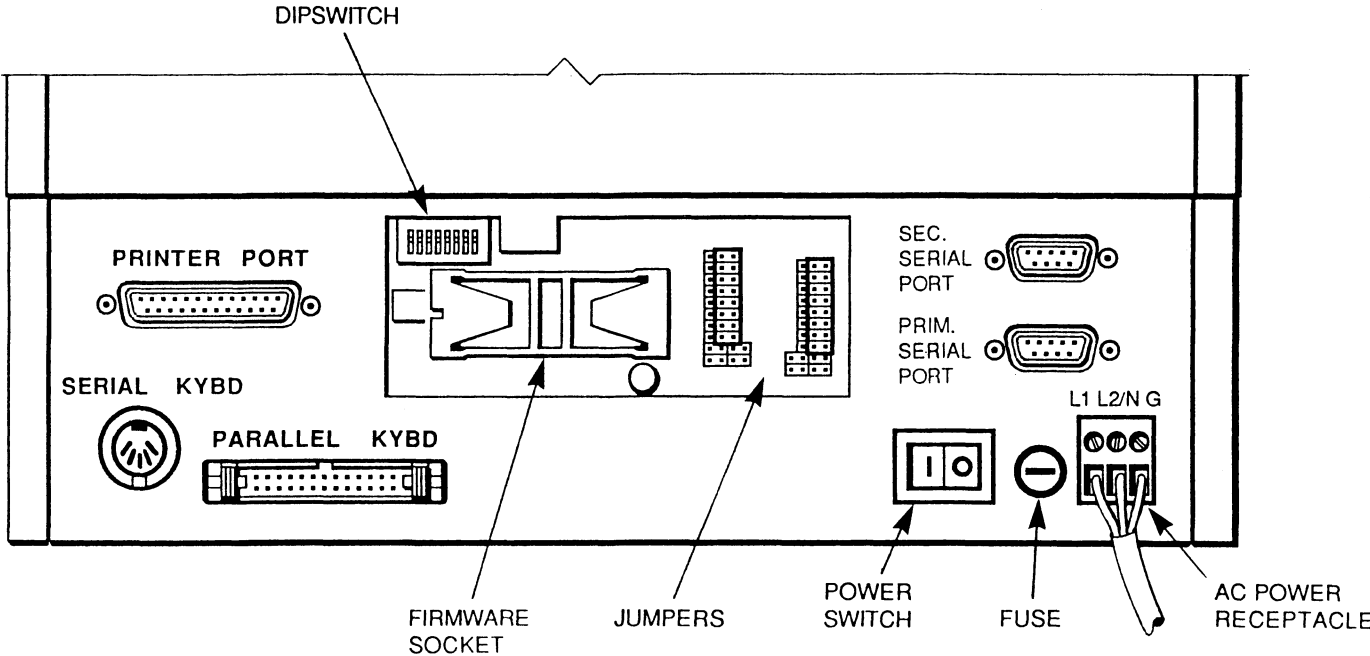

Figure 2-1. 2000 Back Panel
The back panel of the 2000 offers access to the ports, the power assembly, jumpers, switches, and the firmware chip. On the following page Figure 2-1 shows the location of these features on the back panel:
3. Locate the firmware socket (see Figure 2-1). Remove the 2000-01 firmware chip.